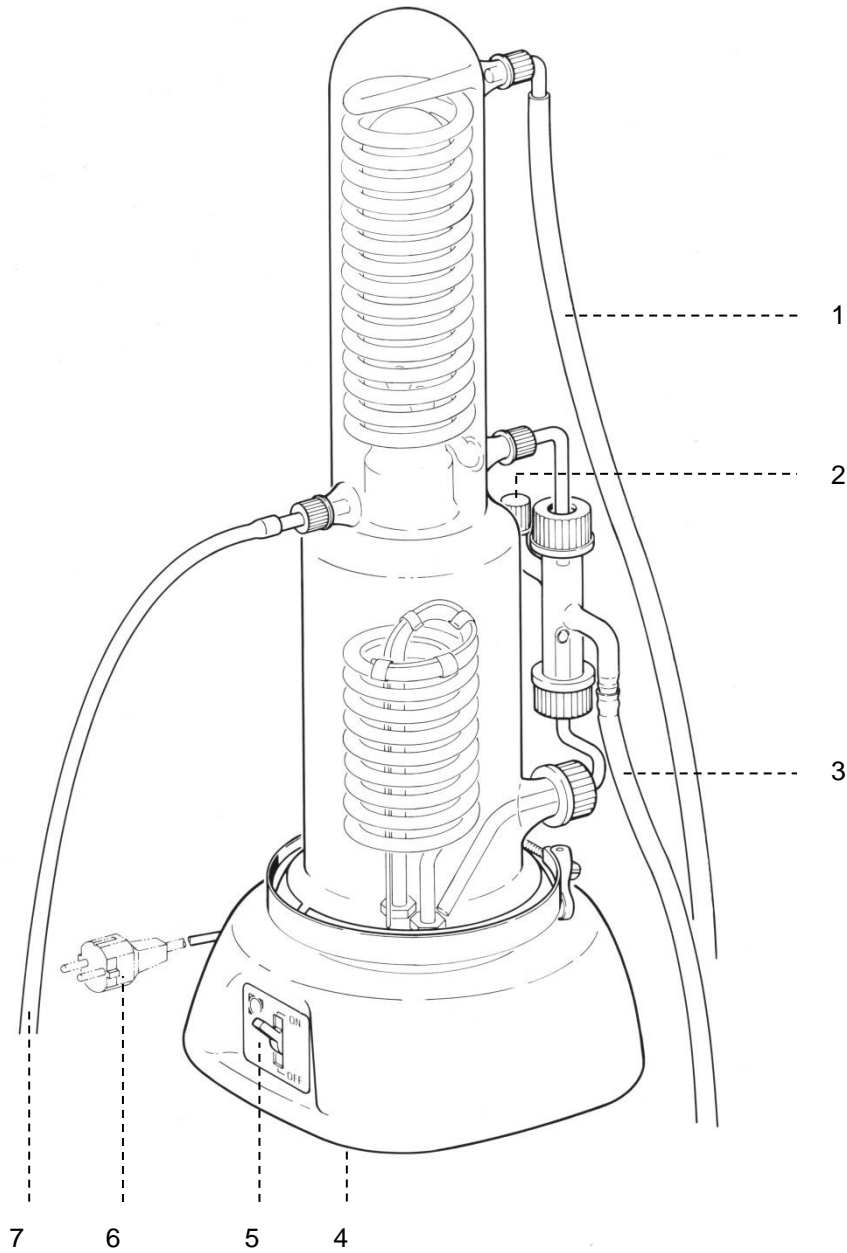

Fig. 1
1. Connect Water Distilling Apparatus as shown in Fig. 1